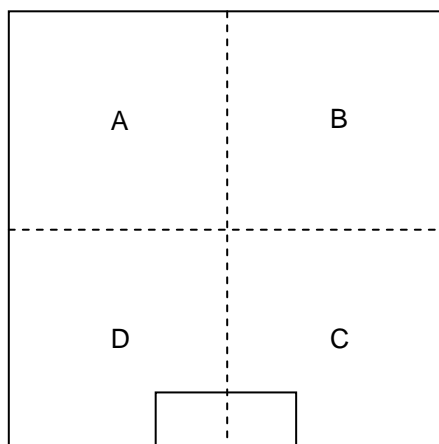

Figure 4-1: Test Weight Locations
2. Figure 4-1 shows test weight locations (A, B, C, and D) at the center of each quadrant of the scale platform. Place a test weight equal to 1/2 of the rated scale capacity at location A and record the weight reading. Then move the test weight to location B and record the weight reading. Continue until you have taken a weight reading at each of the four locations.